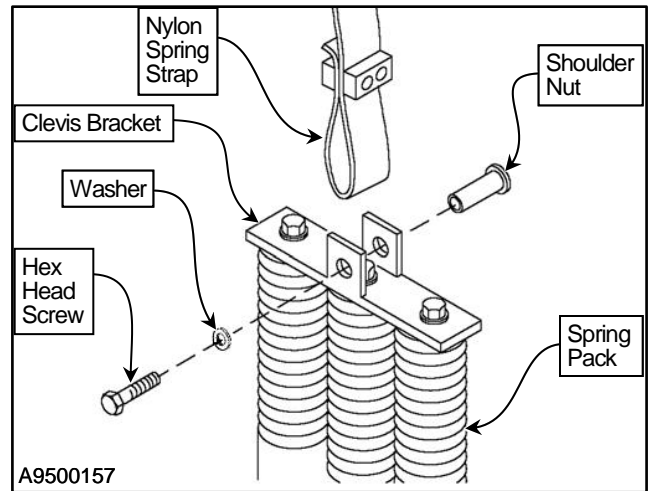

Figure 41
7. Inspect the hardware securing each spring strap to its spring pack. Tighten the hardware as required. Replace any missing or damaged hardware. (See Figure 41)